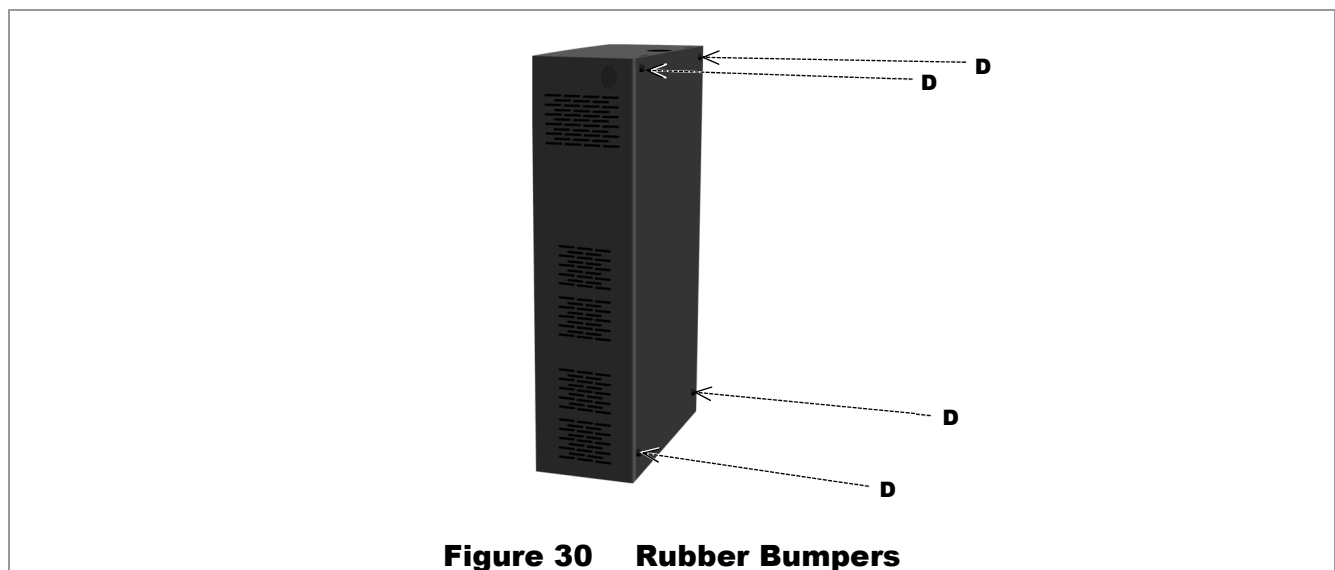

Figure 30 Rubber Bumpers
1. Four rubber bumpers are provided in the hardware kit. Install these bumpers into the rear of the battery by pushing them into the holes designated by **D** in Figure 30.